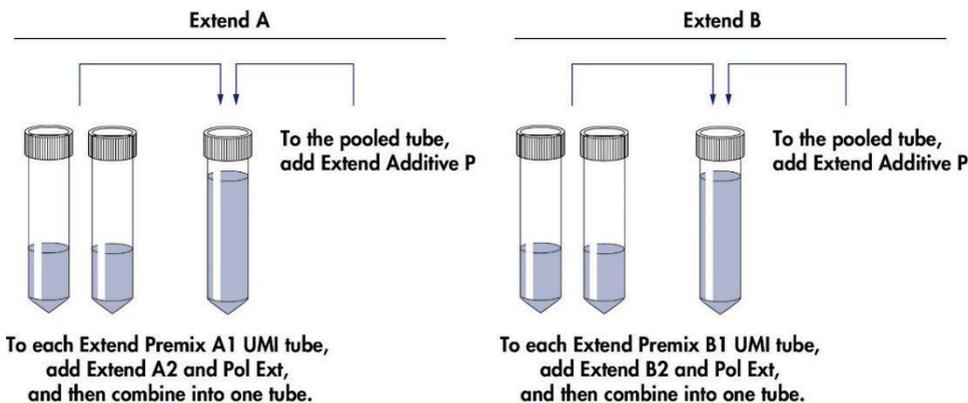

Figure 4. Extend buffer preparation for 2 flow cell run.
- To each of the 2 Extend Premix UMI A1 tubes, add 162 μ l Extend A2 and 162 μ l Pol Extend. Gently mix the contents by inverting the tubes 5 times. Combine the contents of the 2 tubes into one tube and add 30 μ l Extend Additive P (Figure 4). Mix by inverting the tube at least 10 times. Store the remaining of Extend Additive P at ambient temperature.
- To each of the 2 Extend B1 Premix UMI tubes, add 162 μ l Extend B2 and 162 μ l Pol Extend. Gently mix the contents by inverting the tubes 5 times. Combine the contents of the 2 tubes into 1 tube and add 30 μ l Extend Additive P (Figure 4). Mix by inverting the tube at least 10 times. Store the remaining Extend Additive P at ambient temperature.